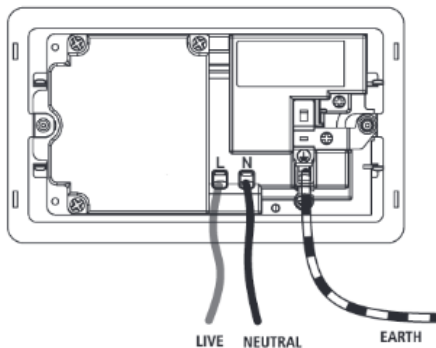

Fig. 1
- Connect to the mains supply ensuring the correct polarity is observed (see Fig. 1): L – Live (brown), E – Earth (green/yellow), N – Neutral (blue)